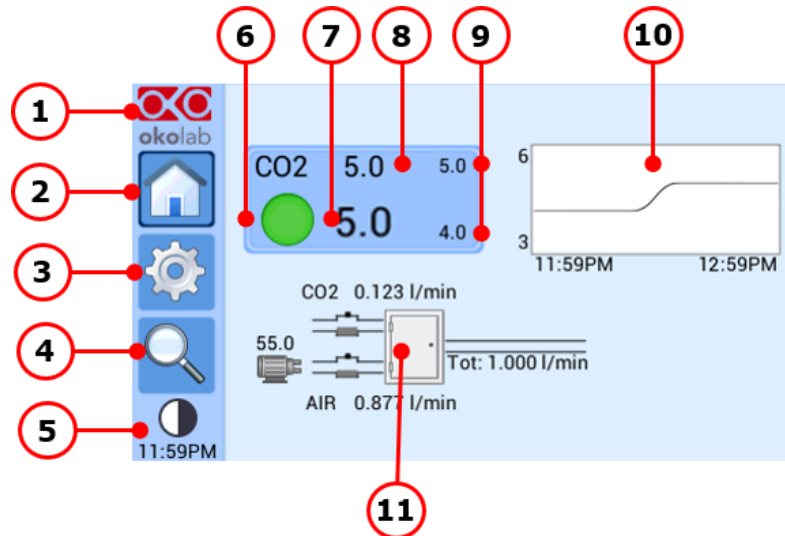

Figure 14. Home page.
Figure 14 shows the main control panel, in particular it highlights 19 pointers detailed below.
**Note** ► The max and minimum concentration values will be displayed in the top left box in the Homepage (see pointer 9 in Figure 14).